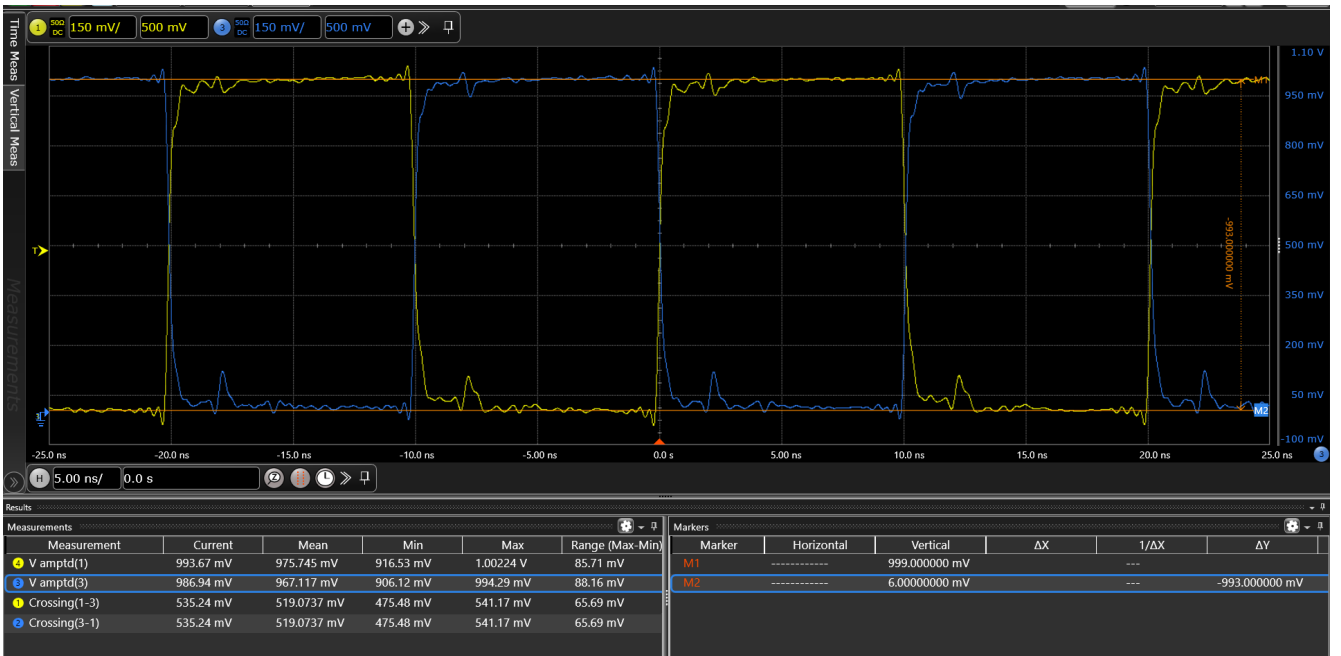

Figure 21. Vovs – HCSL External Termination, Boost = 30% on OUT0 (yellow trace) and nOUT0 (blue trace)
- Figure 21. Vovs – HCSL External Termination, Boost = 30% on OUT0 (yellow trace) and nOUT0 (blue trace)11